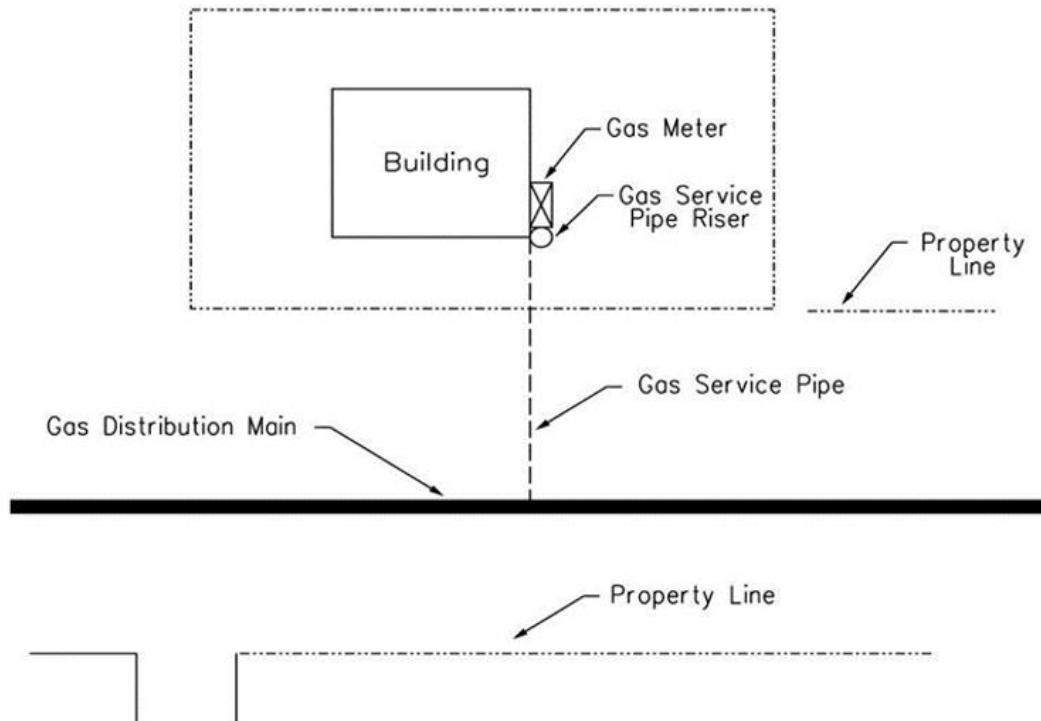

Figure 10. Typical Gas Service
- (1) Location in a protected location next to the building being served (see Figure 10).